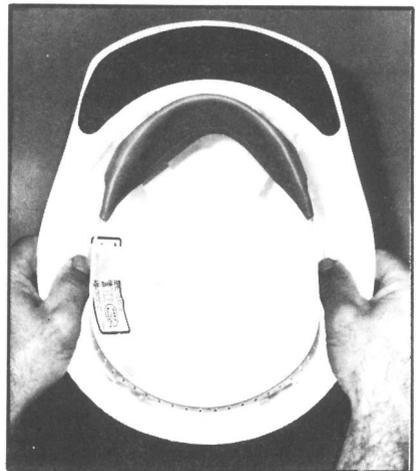

FIGURE 5
- a. Hold the safety cap in both hands, inverted, with the front facing away from you. The edge of the brim should rest approximately in the center of the palm of each hand. The position of the hands is such that the thumbs are directly over the center supporting tabs of the sweatband. See Figure 5.